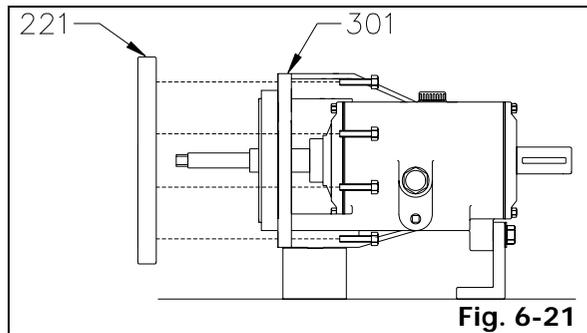

Fig. 6-21
1. For pumps furnished with adaptor extension ring (221), remove eight (8) or twelve (12) adaptor extension ring bolts and lift off adaptor extension ring (221) from bearing bracket (301) or bearing frame (300) (Fig. 6-21).